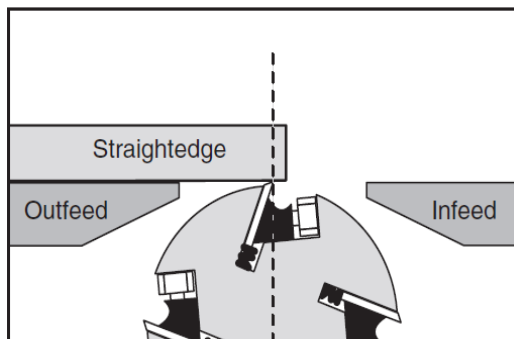

Figure 11
4. Position of the table and straight edge should look like Figure 11. Use care when handling the straight edge near the blades so as not to damage them.